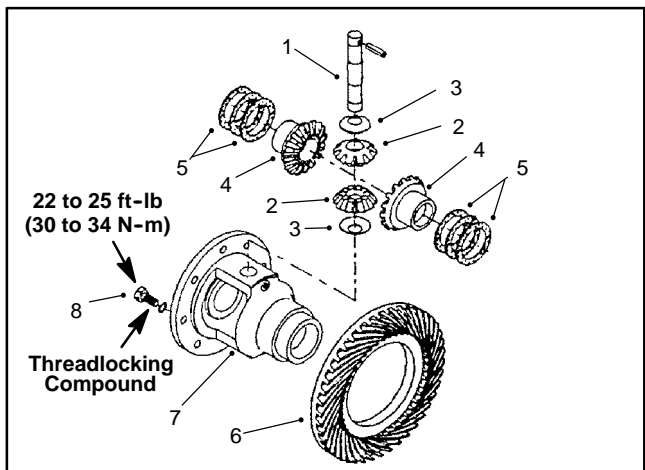

Figure 36
7. Remove the differential pinion shaft, pinion gears and pinion washers. Remove the differential side gears and side gear shims. Remove the ring gear only if it will be replaced (Fig. 36).